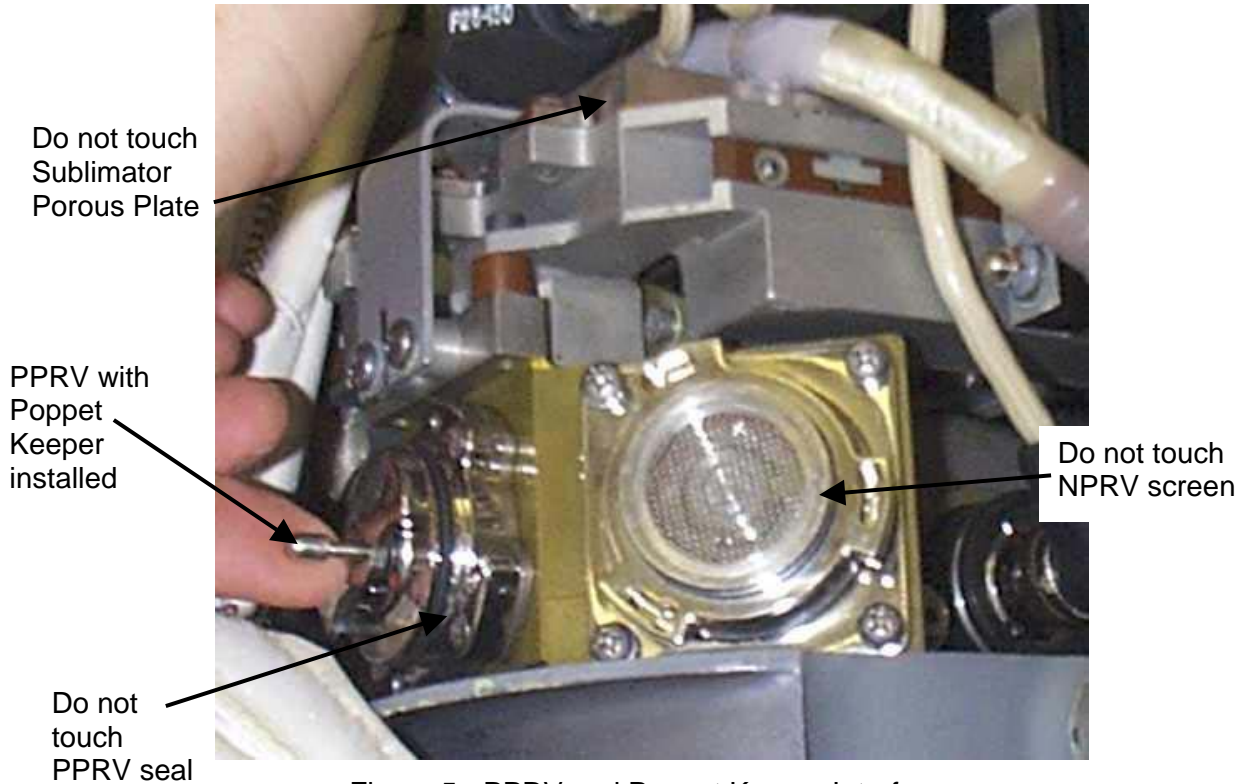

Figure 5.- PPRV and Poppet Keeper Interface.
3. Take care to avoid the PPRV seal. The PPRV is located forward of the NPRV as seen in Figure 5.
9.1 Refer to Figure 5.